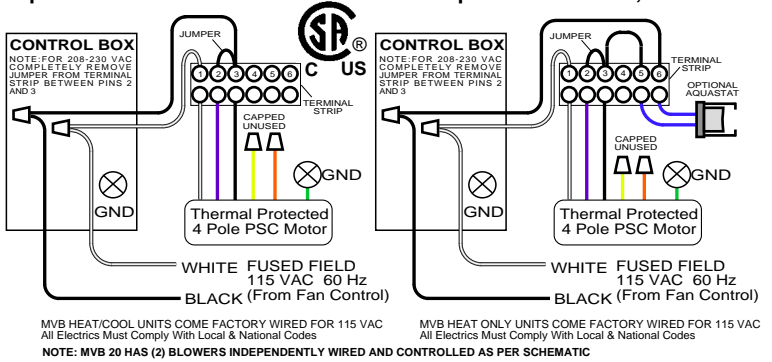

FIG. 1 CONTROL WIRING HEATING & HEATING/COOLING
A. Connect wires ONLY at the field wiring box provided on the side of the unit. All units should be wired to conform with local and National codes. Unit is factory wired for 115 VAC but can be field wired to operate with 208-230 VAC. See Fig. 1 for wiring diagram schematic. Unit may be controlled by a variety of field wired Fan Relay controls, aquastats and/or remote mounted variable speed fan controls, etc...